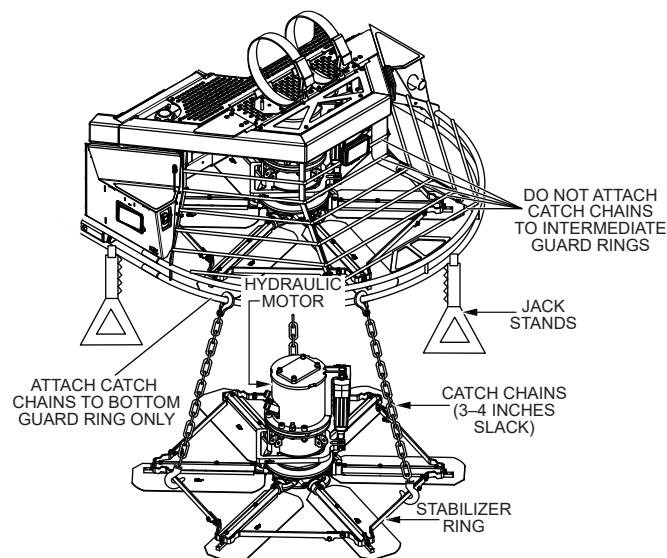

Figure 2. Prepare Trowel
3. Place the trowel on heavy-duty jack stands (Figure 2) on secure, level ground in an area that is free of dirt and debris.
4. Attach one end of three equally spaced straps or catch chains to the stabilizer ring (Figure 2). Attach the other end of these straps or chains to the **bottom guard ring** in a manner that would prevent the spider assembly from falling.
Make sure the catch chains are positioned so that they are equally spaced, with **no more than 3 to 4 inches of slack**. The catch chains in Figure 2 appear longer than actual size. They are shown this way for clarity only.